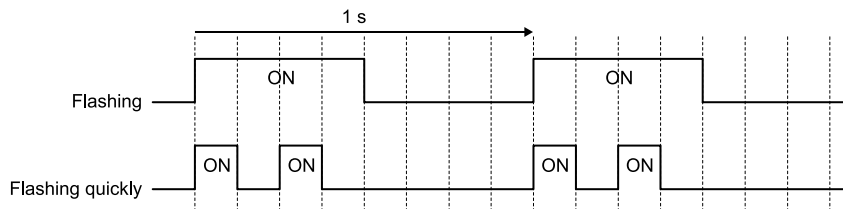

Figure 3.3 About the RUN LED's Flashing Statuses
*1 For the details on the difference between the RUN LED's flashing vs flashing rapidly statuses, refer to Figure 3.3.